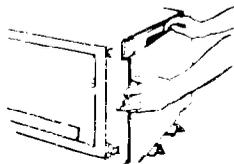

FIGURE 6
4. Lay two carton corner posts or other protective material (such as a throw rug) on the floor, then lay the unit on either of its sides on the corner posts. The corner posts will protect the finish of the compactor and the floor. See Figure 6. **NOTE: Do not truck or handle by console.**
Remove the cardboard shipping pad located on the bottom. See Figure 6. Stand compactor upright.